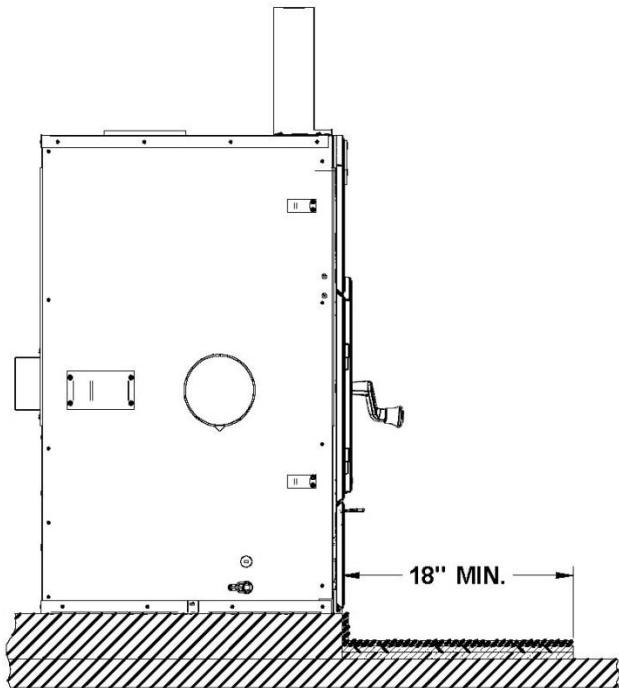
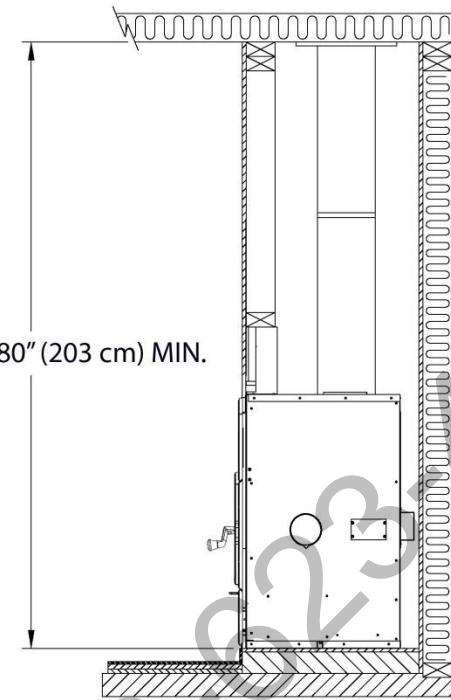

Figure 6 Installation on raised base.
Figure 5 Ceiling clearances requirements
- C. The WFP-75 may be installed directly on the floor or on a raised combustible or non-combustible base (see figure 5). That base must be at least equal (or exceed) the height of the floor protection. For more information regarding the installation on a raised base, refer to the "Hearth Extension Requirements" section of this manual. Please take note that a minimum of 80" (203 cm) measured from the base of the appliance to the ceiling is required (see figure 6).